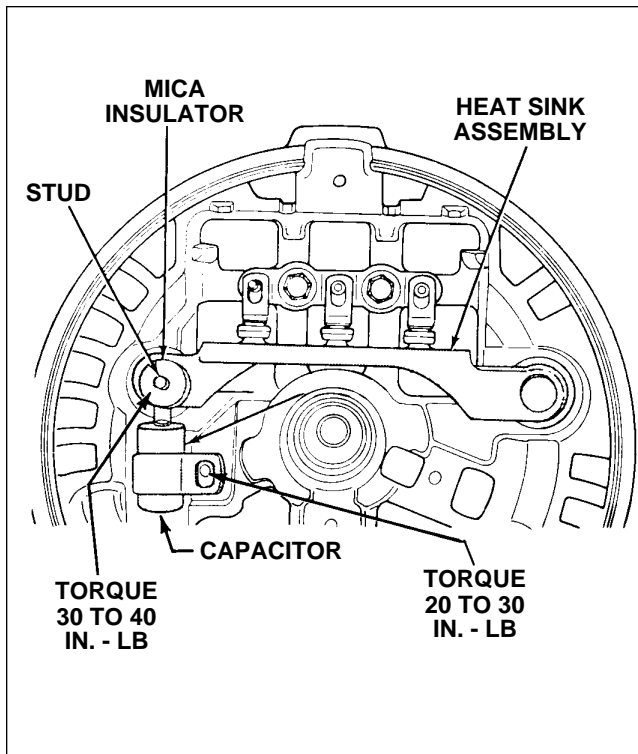

Figure 11-38. Installation of Capacitor
- k. Install positive heat sink nut and lock washer, and tighten to a torque of 20 to 30 inch-pounds. (Refer to Figure 11-38.)